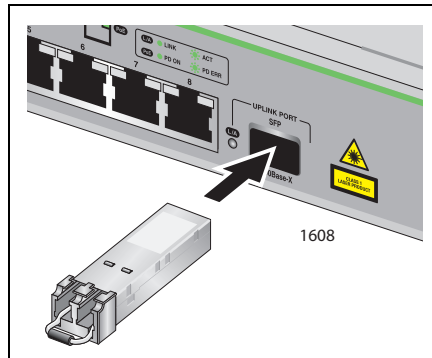

Figure 9. Inserting the SFP
- Slide the SFP transceiver into the SFP slot on the switch, as shown in Figure 9.